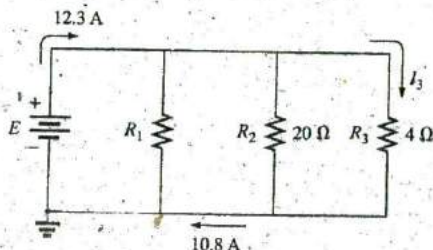

FIG. 6.85
15. Given the information provided in Fig. 6.85, find the unknown quantities: E , R_1 , and I_3 .